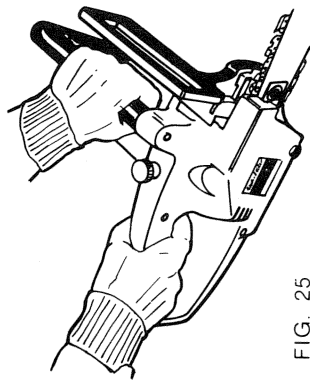

FIG. 25
2. For all types of cutting always hold the saw firmly in both hands, with thumbs fingers encircling the handles. (FIG. 25).